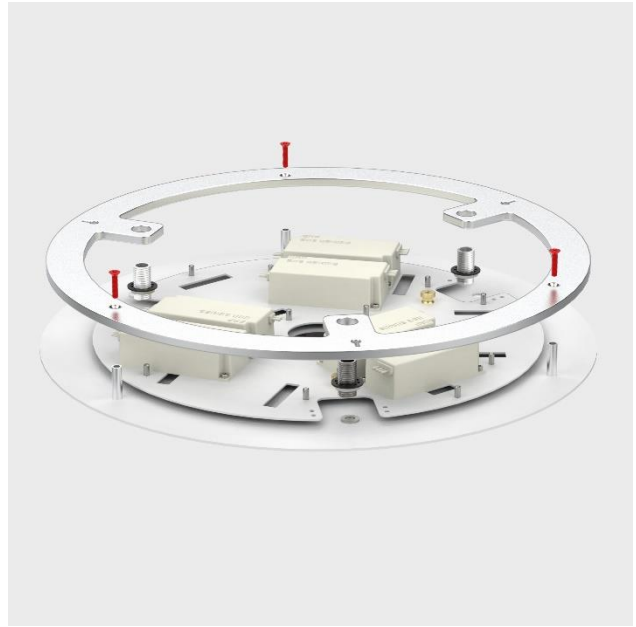

Figure 3
- With disk exposed, remove the aluminum ring which is held in position with three screws (Figure 3).